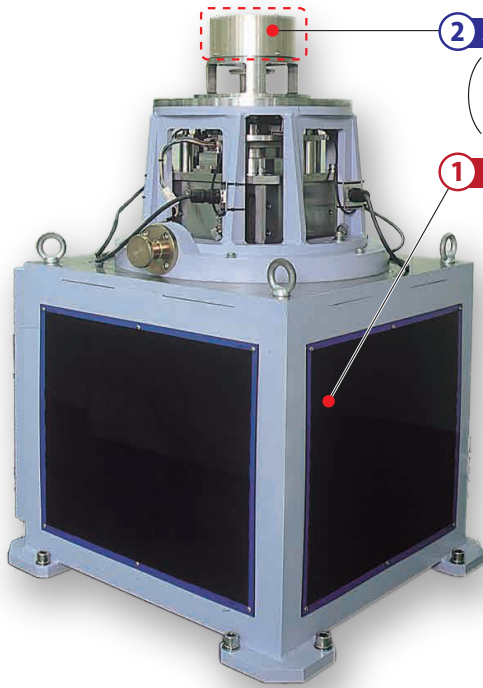

Figure 2
(1) Phase difference time conversion method
The number of measurement clock pulses between the output pulse signals of the reference sensor (Figure 2 (1)) that rotates at a constant speed and the calibrated angle sensor (Figure 2 (2)) is calculated, and then this time is converted into an angle to measure the variation in the angle accuracy.